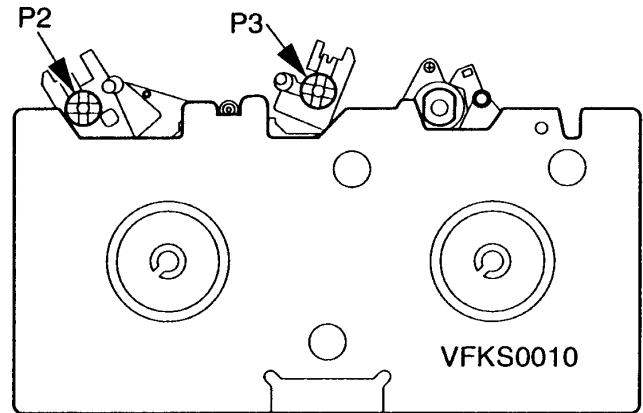

Fig. 5 - P2/P3 Post Height Adjustment
**P2/P3 Post Height Adjustment (Figs. 5, 6, 7)**
2. Position the post adjustment plate over the reels (Fig. 5).